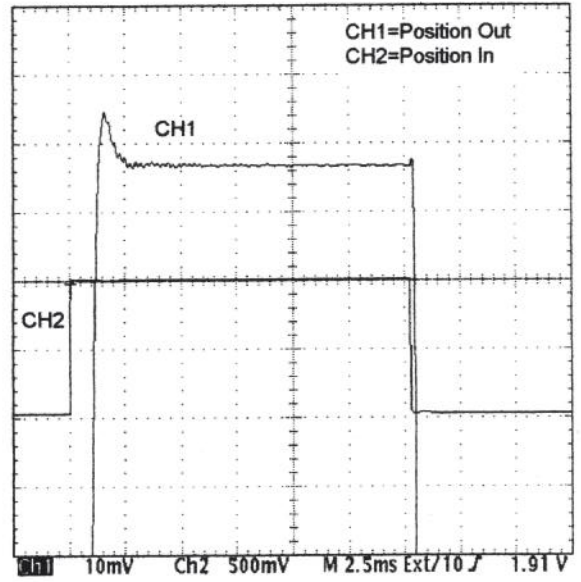

Figure 8.
5. Turn R42 CW to minimize the amplitude of the undershoot as shown in Figure 8.